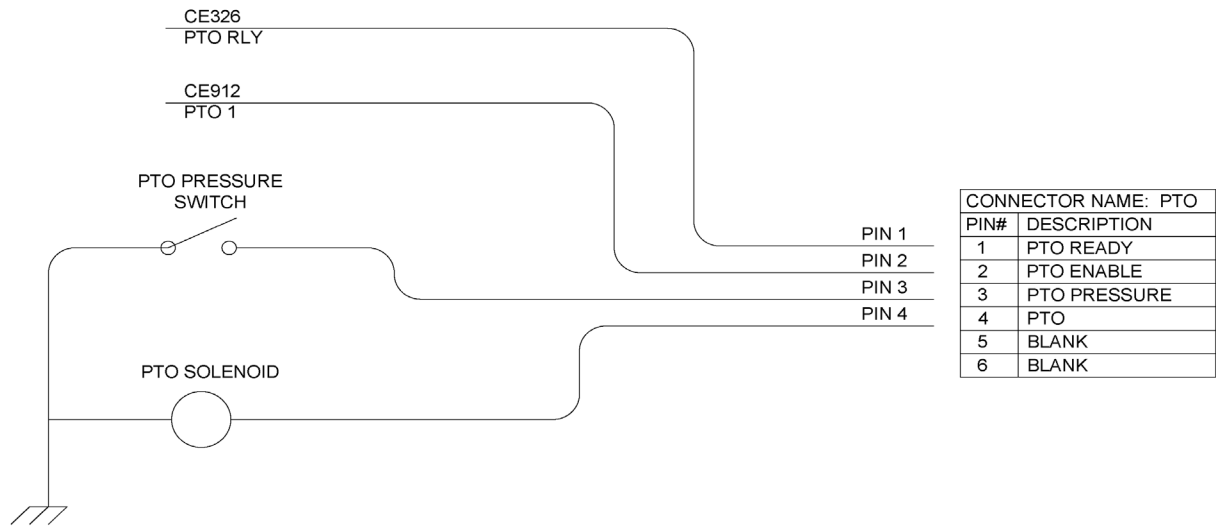

Figure 7 - PTO Activation Circuit
8. Route the section of chassis harness (P/N: 475300353) with connector labeled "**PTO**" through the chassis firewall into cab and plug into housing defined in Figure 7.